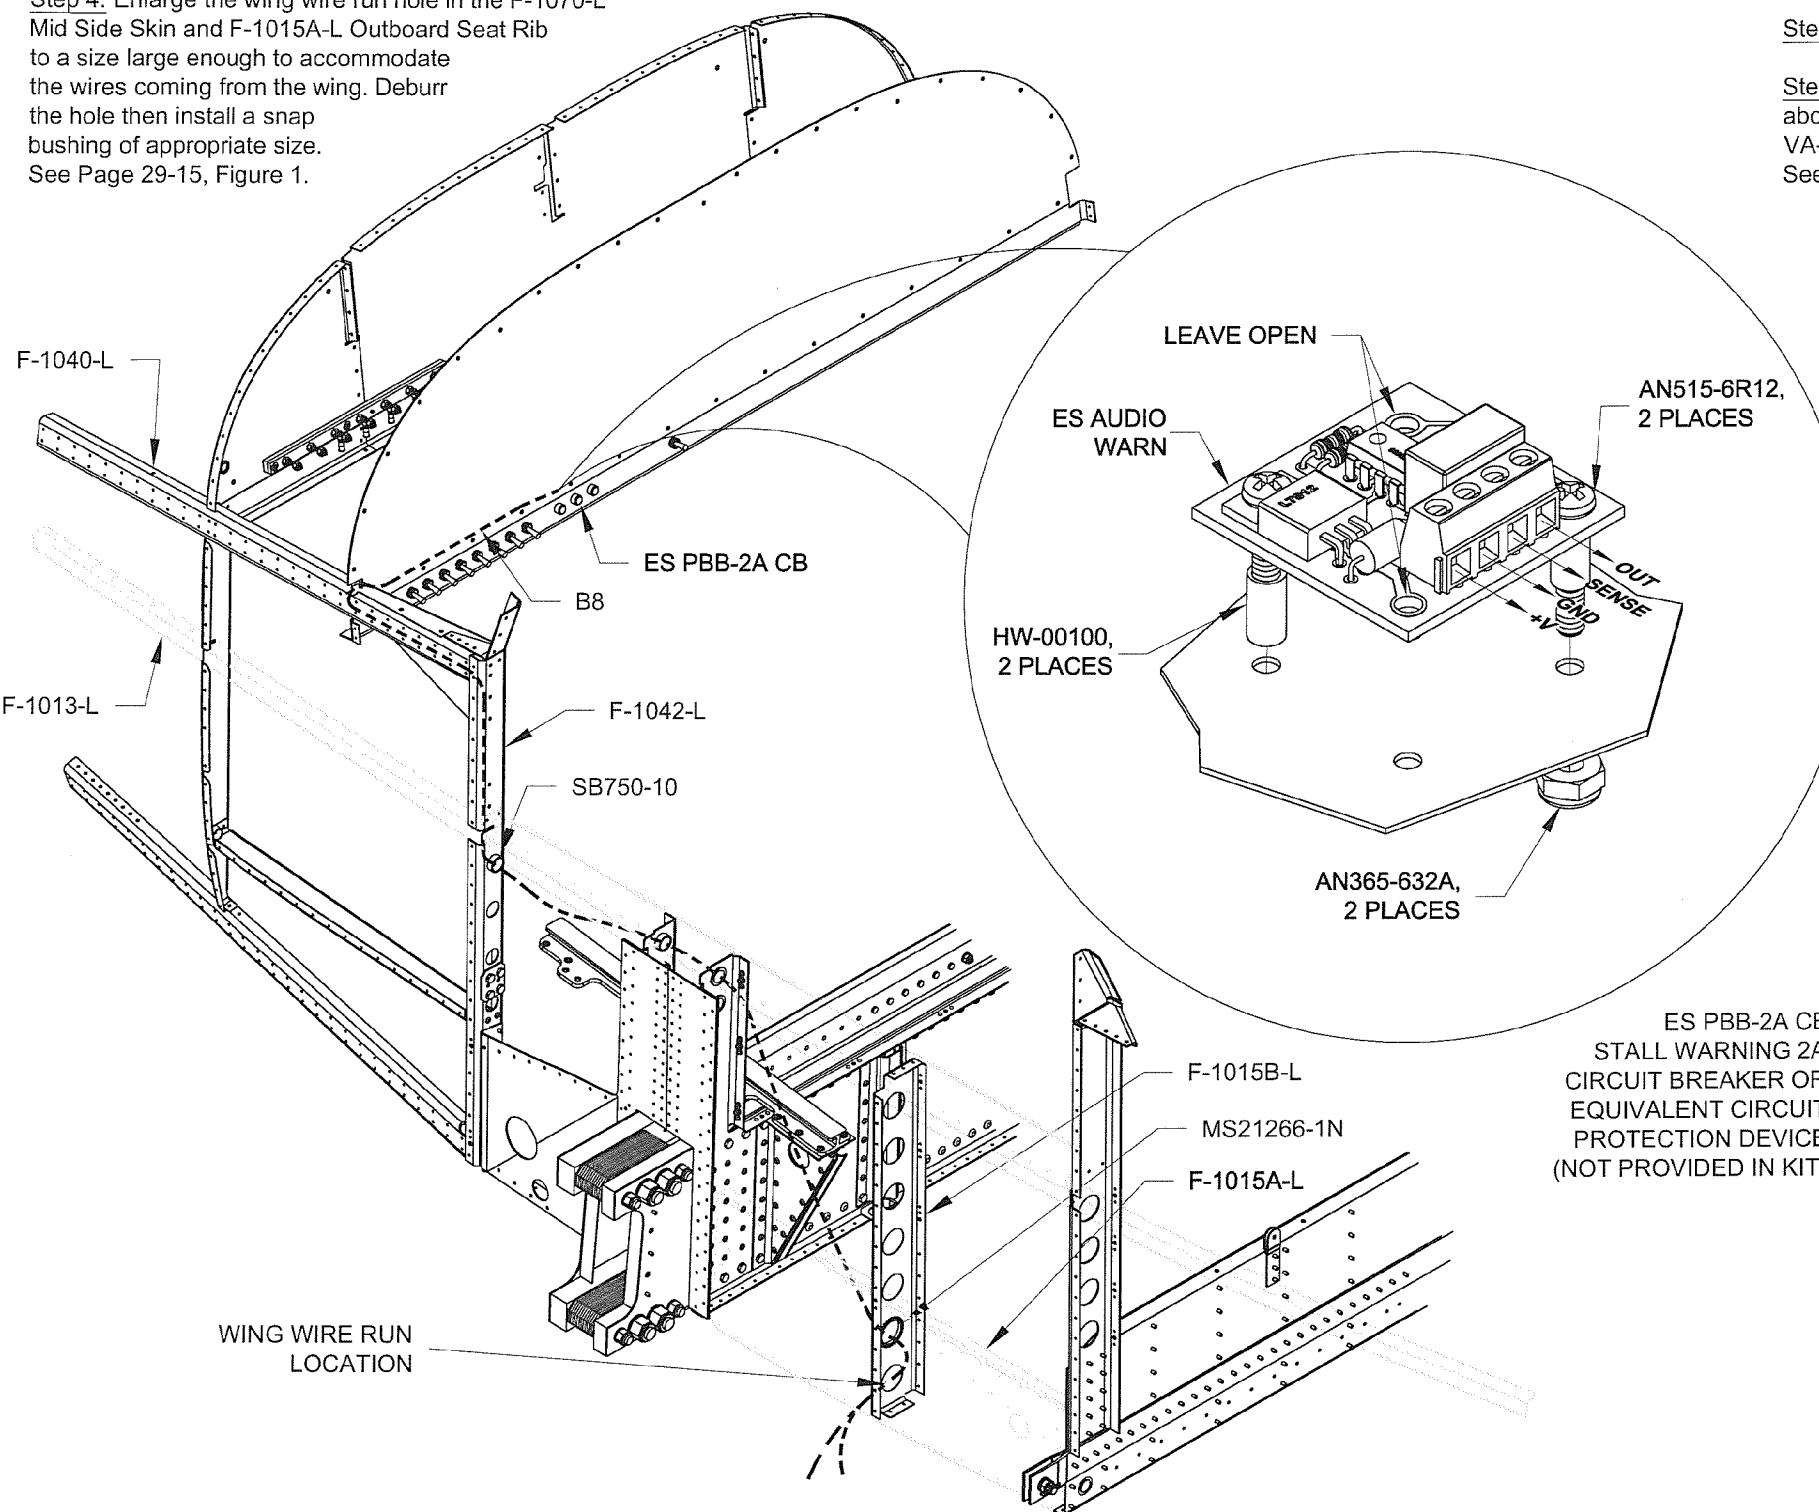

FIGURE 1: WIRE ROUTING AND BUZZER INSTALLATION
See Page 29-15, Figure 1.
Step 5: Install an SB750-10 snap bushing in the F-1042-L Bulkhead Side Channel as shown in Figure 1.
Step 7: Route B8 as shown in Figure 1 and as diagrammed in Figure 2. It does not matter which side of the ES E22-50K switch is connected to the ES PBB-2A CB circuit breaker or the ES Audio Warn.